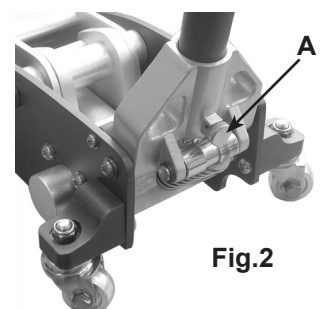

Fig.2
- 3.1.3 Undo the handle socket screw (A) until it no longer protrudes into the handle socket (Fig.2).